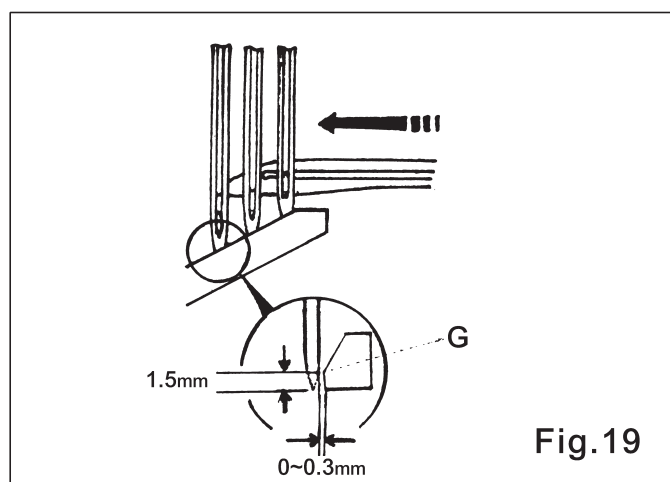

Fig.19
1. When the tip of Looper moves to the center of left needle, the distance of the tip of left needle pass the line (G) of Front Needle Guard is about 1.5mm. This is the height of Front Needle Guard. The clearance between the Front Needle Guard and right needle is about 0.3mm. (Fig.19)